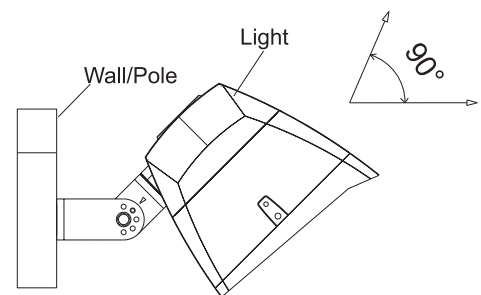

Figure 11
Step 3: Connect the fixture to the bracket and tighten the screws; connect the wires properly. (Figure 11)
Notice: Adjustable angle is 0~+/-90° (Figure 11)